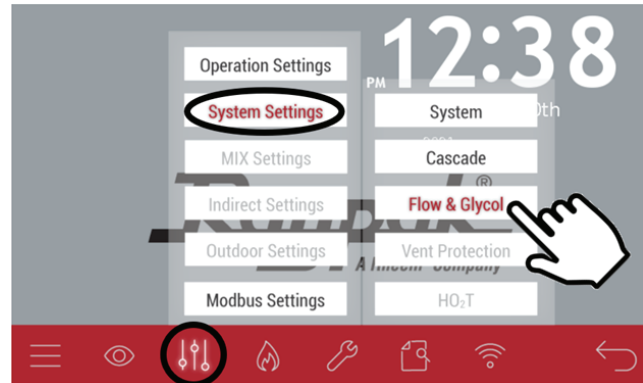

Figure 62. Flow Sensor System Settings
3. On main menu, go to Adjust > System Settings > "Flow and Glycol". See **Figure 62**.
2. On main menu, go to Adjust > System Settings > "Flow and Glycol". See **Figure 62**